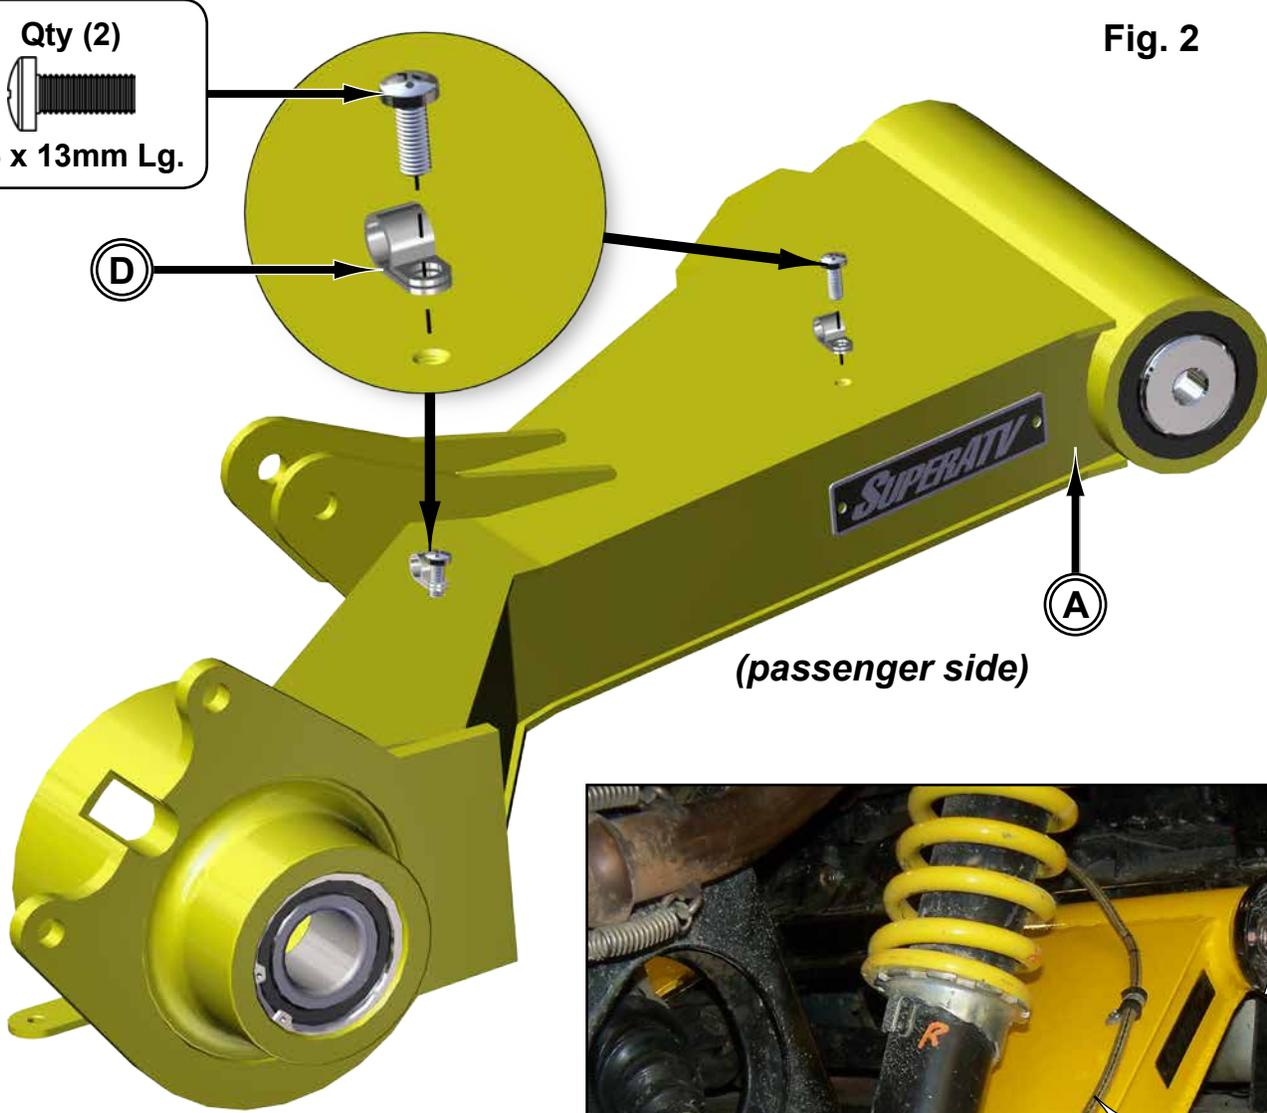

Fig. 2
- Reinstall Sway Bar to Trailing Arm with stock hardware. See Fig. 2.
4. Install Brakeline Clips (D) to Brakeline and secure to Trailing Arm (A) with M5-.80 x 13mm Lg. PHMS. See Figs. 2 and 4.